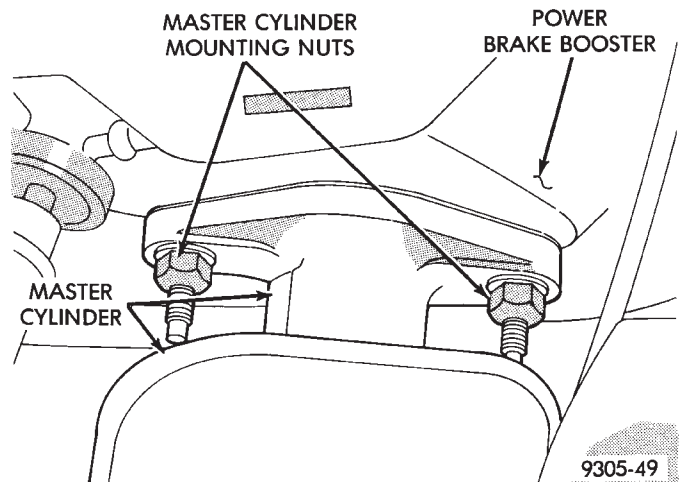

Fig. 51 Master Cylinder Mounting
(1) Disconnect brake fluid level sensor wire connector on the side of the master cylinder reservoir.
(2) Disconnect primary and secondary brake tubes from master cylinder housing. Install plugs at brake tube outlets.
(3) Remove the 2 nuts (Fig. 51) attaching the master cylinder to the vacuum booster.
(1) Install master cylinder on studs of vacuum booster, aligning the vacuum booster push rod with master cylinder piston.
(2) Install the master cylinder mounting nuts (Fig. 51). Tighten the nuts to a torque of 28 N·m (250 in. lbs.).
(3) Connect brake tubes to master cylinder primary and secondary ports. Tighten fittings to 17 N·m (145 in. lbs.) torque.
(4) Reconnect brake fluid level sensor.